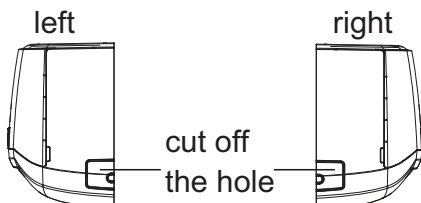

Fig. 14 – Remove Knockouts
1. Use a small saw blade to carefully remove the corresponding plastic covering on side panel and drill the appropriate size hole where the pipe is going through the wall. See Fig. 14.